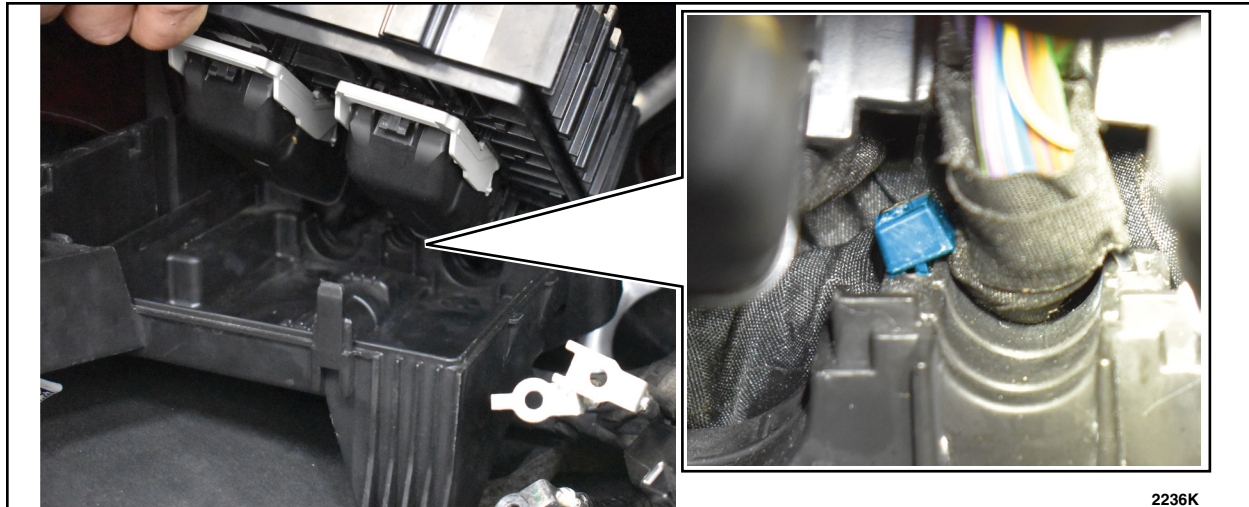

FIGURE 23
A. Ensure that the zip tie connecting the middle wire harness to the lower portion of the BJB is replaced. See Figure 23.